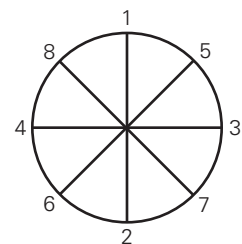

Figure 11: Star Pattern
- When using this method, follow a star pattern (as shown in *Figure 11*) to avoid “cocking” of the seal.
- Place the ends of the wooden block at positions 1 and 2 (as shown in *Figure 11*).